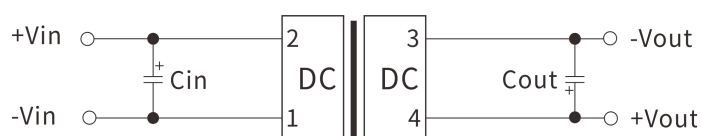

Figure 1
If it is required to further reduce the input and output ripple, a capacitor filter network can be connected to the input and output ends, and the application circuit is shown in Figure 1.
2. One recommended circuit: For applications where ripple and noise requirements are normal, a filter capacitor can be connected in parallel at the input and output ends. The external circuit is shown in the following figure1 with the recommended value details of the filter capacitor. Output load requirements: Try to avoid no-load use. When the actual power consumption of the load is less than 10% of the rated output power of the module or there is no-load phenomenon, it is recommended that a dummy load be connected to the output end. The dummy load (resistance) can be calculated by $5\sim 10\%$ of the rated power of the module, resistance value = $U_{out} / (1W * 10\%)$.